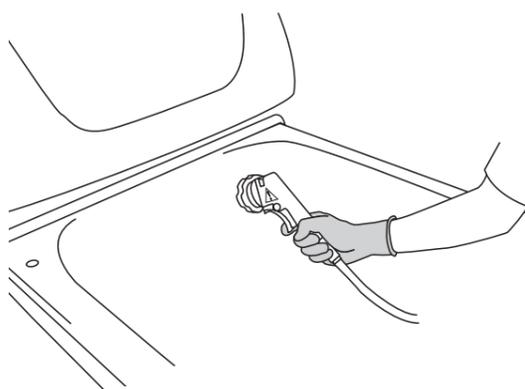

Figure 4
10. Spray disinfectant into the surface overflow outlet. See Figure 4.